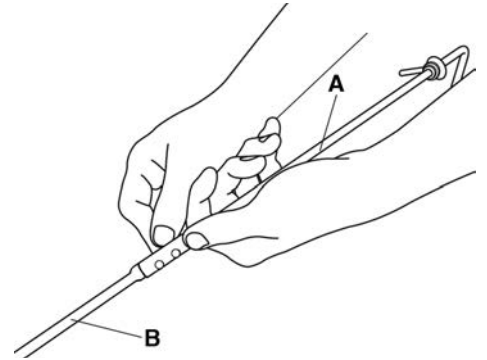

FIGURE 12
11. Position the upper chute crank (A) Fig.12 over the lower chute crank (B), aligning the screw holes.